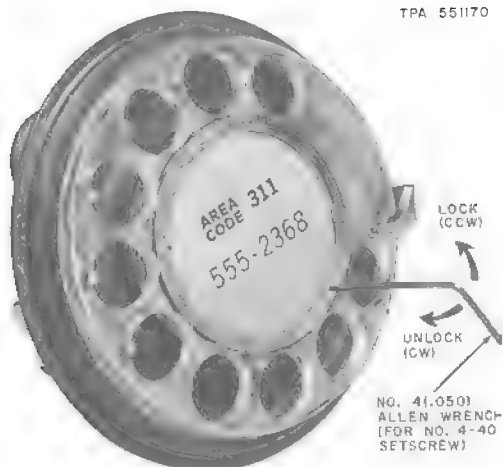

Fig. 16—Installing Fingerwheel on 8U Dial
- (1) Refer to Fig. 16, use a No. 4 (.050) Allen wrench and turn the setscrew in a clockwise direction until it clears fingerwheel.
- (1) Ensure that setscrew is all the way in (clockwise).
- (2) Place fingerwheel on dial with operator hole over the 9 position.
- (3) Rotate fingerwheel counterclockwise until it is in its normal position.
- (4) Using a No. 4 (.050) Allen wrench, turn the setscrew in a counterclockwise direction until the stop is reached (Fig. 16).